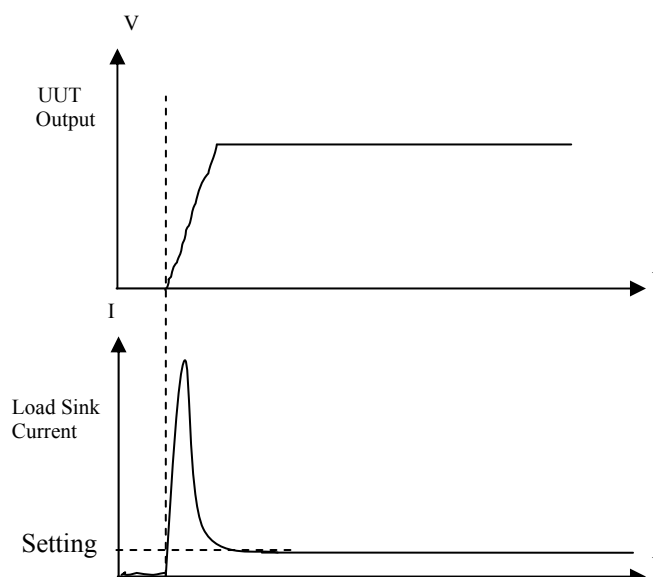

Figure 3-15 When Von Point is set to 0V without Protection
- (1) When it is “LOAD ON”, VON POINT is set to 0V and Von Protection is disabled, the DC LOAD will occur overshoot when the SW is turned off. It will damage the UUT and DC Load as Figure 3-15 shows.